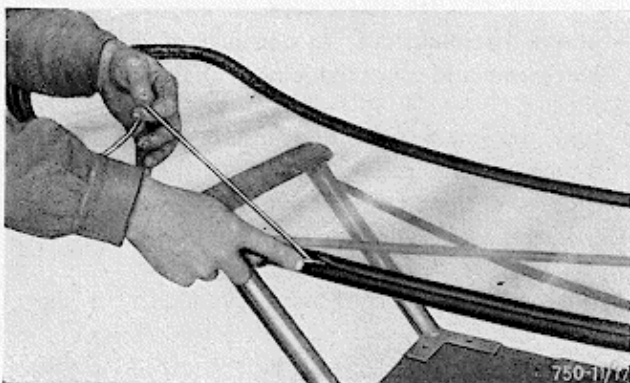

Fig. 16 - Inserting the cord in the window groove in the rubber moulding
- turn the glass over and insert a cord in the groove in the rubber moulding, that is, in the groove designed to receive the metal edge of the coachwork window opening (Fig. 16).